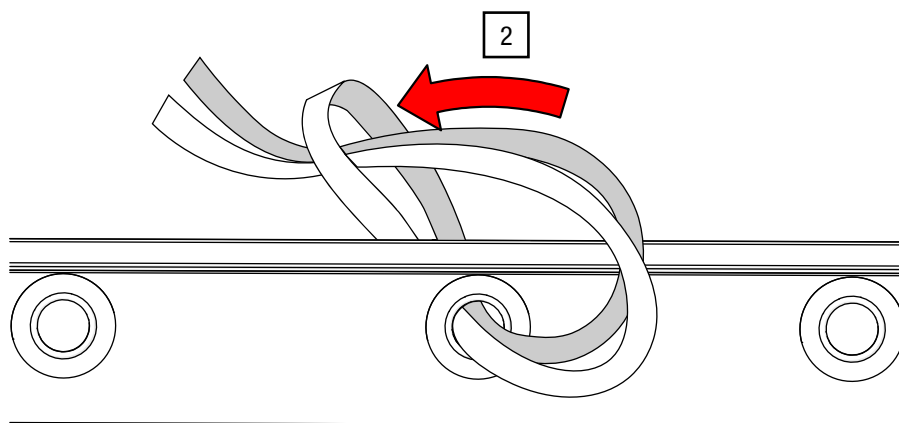

Fig. 90: Tie line – Pull loose ends through loop
2. Pull both loose ends of the tie line through the newly created loop (see Fig. 90).